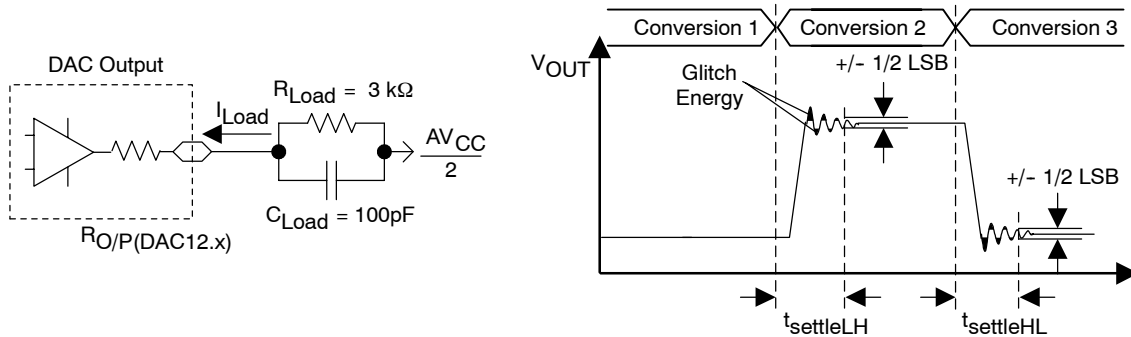
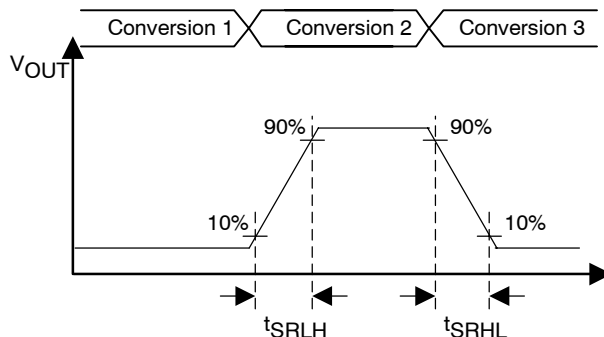

Figure 24. Settling Time and Glitch Energy Testing
Figure 25. Slew Rate Testing
12-bit DAC, dynamic specifications (V_{REF}, DAC12 = AV_{CC}, DAC12IR = 1) (see Figure 24 and Figure 25)
- NOTES: 1. R_{Load} and C_{Load} connected to AV_{SS} (not AV_{CC}/2) in Figure 24.